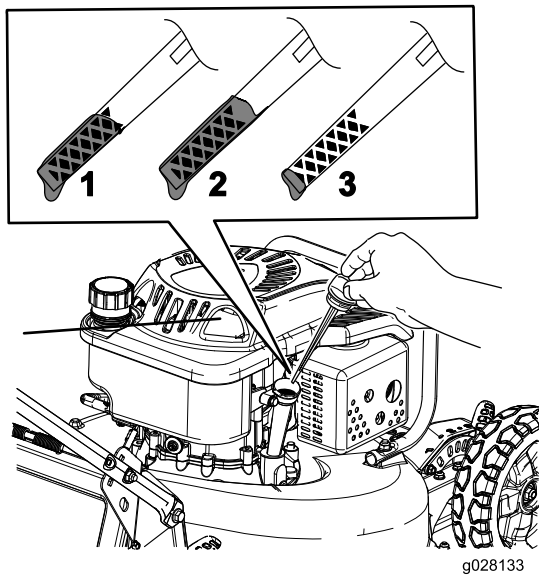

Figure 20
8. Remove the dipstick and read the oil level on the dipstick (Figure 20).